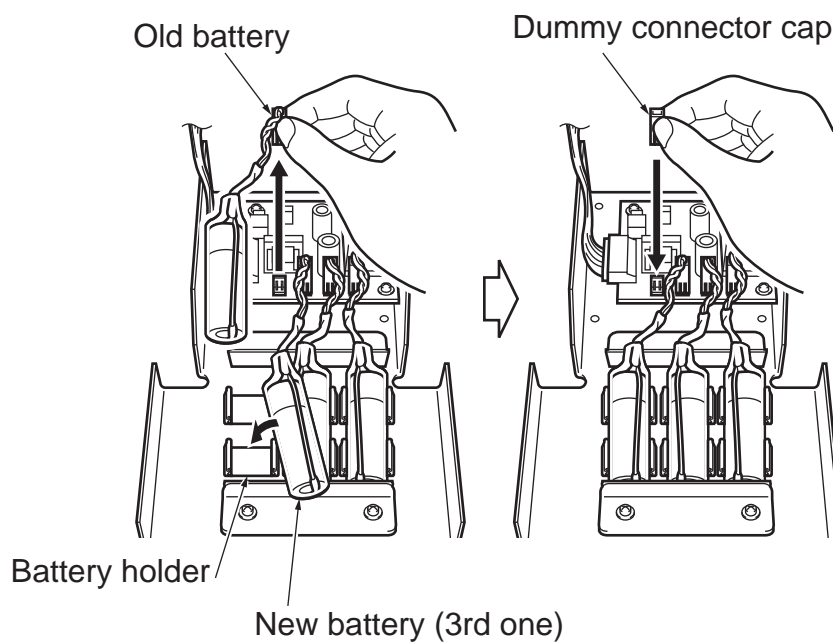

Figure 5-7. Reconnecting Dummy Connector Cap
9. Remove the last old battery and connect the dummy connector cap disconnected in Step 5. See Figure 5-7.